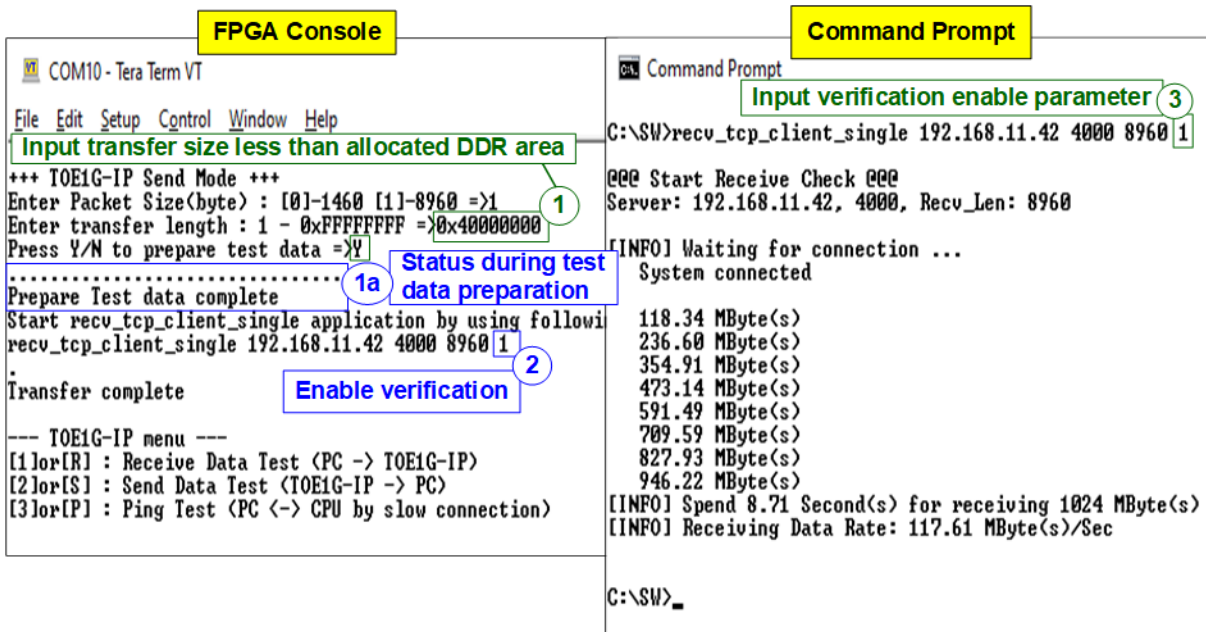
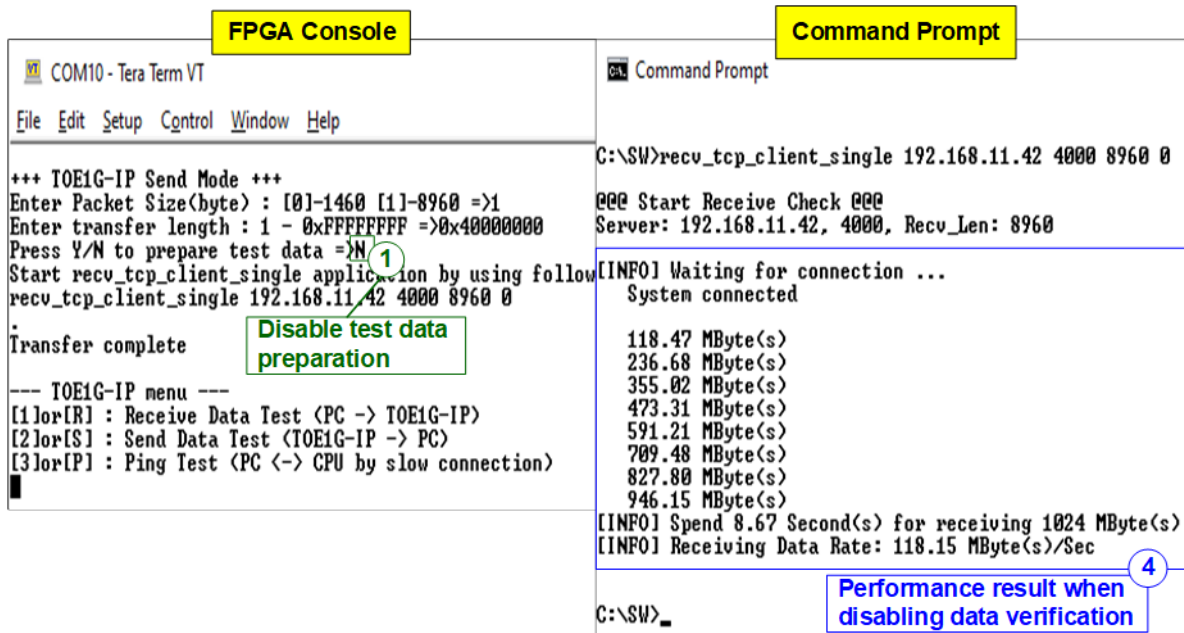

Figure 4-8 Send data test using incremental data at 8960-byte packet with data verification
Figure 4-9 Send data test using dummy data at 8960-byte packet without data verification
- c) Prepare test data: This input is displayed only when the total transfer length does not exceed the allocated DDR area. Enter 'Y' to fill increment test pattern or any other key to fill dummy data (as shown in Figure 4-8 - Figure 4-9).